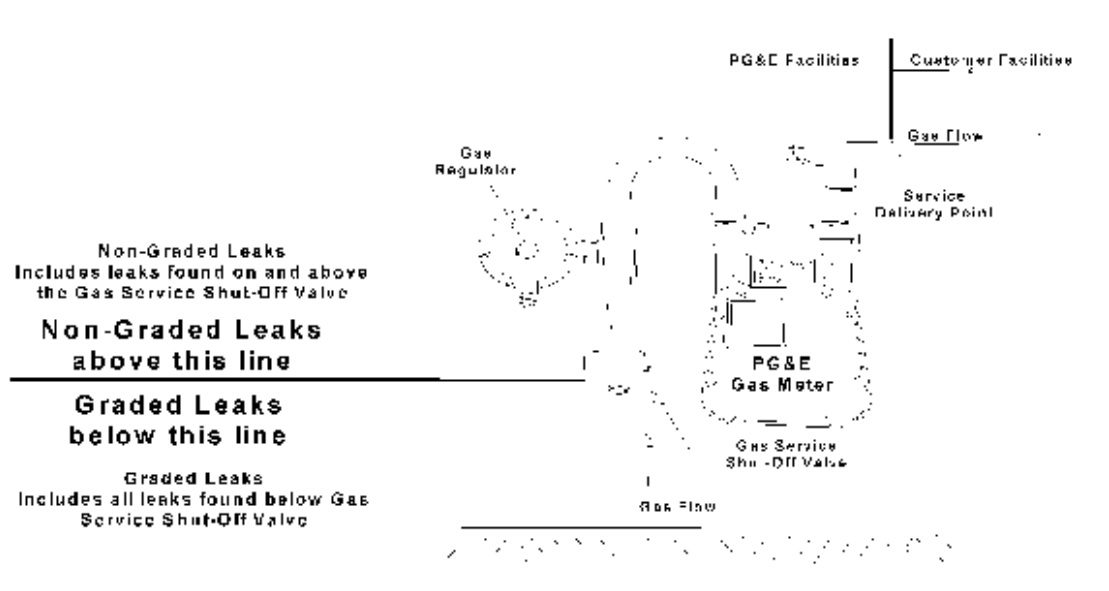

Figure 1
- 1.4 This procedure does not apply to a non-hazardous release of gas at or downstream of the aboveground inlet gas service valve recorded in Customer Care & Billing (CC&B) processes. See Figure 1 below.